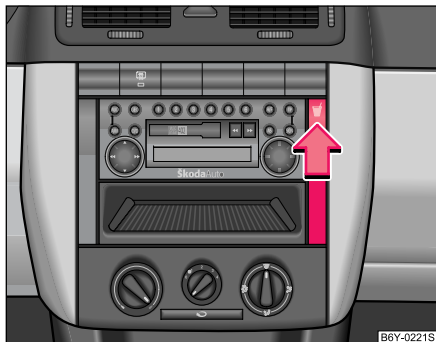

Fig. 63 Dash panel:
- Press on the symbol in the direction of  ⇒ fig. 63, the drinks can holder slides out and opens up.